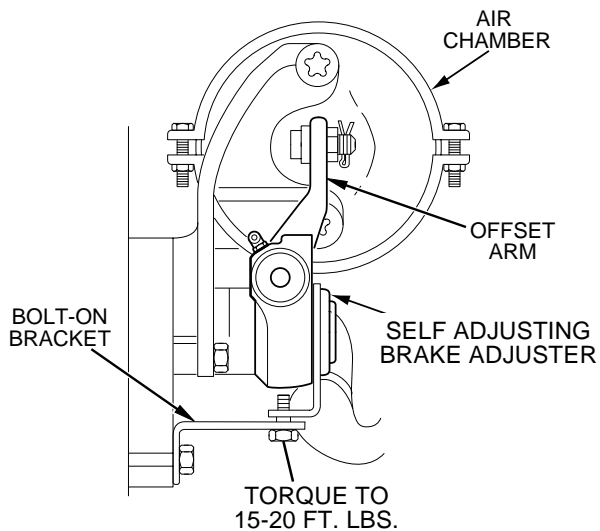

Figure 7 Offset (Bolt-On Type Bracket) Installation
- Offset brake adjuster using bolt-on bracket (See Figure 7.)